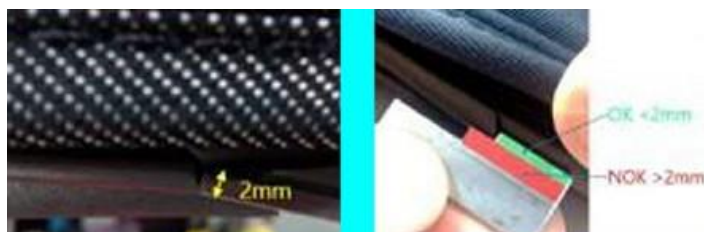

Figure 2
- Window seals are confirmed as not damaged, split or torn, see the examples shown in Figure 2 regarding the OK and NOK condition of the roof frame seal as regards the expected measurement results